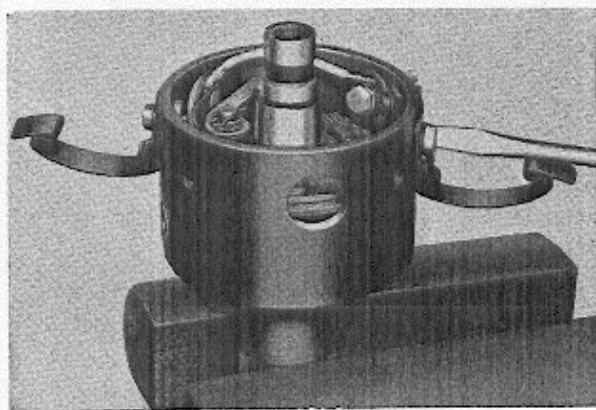

Fig. 58. Removing the breaker plate. VOLVO 24849
4. Remove the breaker plate. This is done by unscrewing the two screws which hold the catch springs for the cap, see Fig. 58.